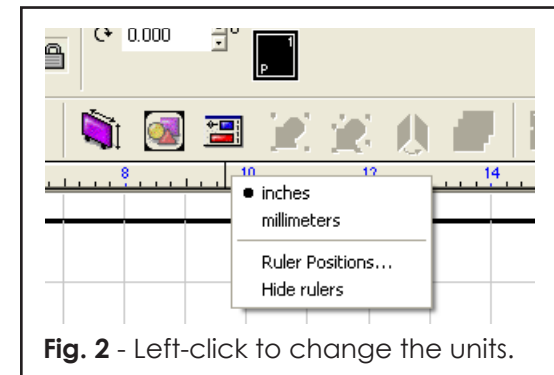

Fig. 2 - Left-click to change the units.
- Left-click the ruler and choose the units (Fig. 2).